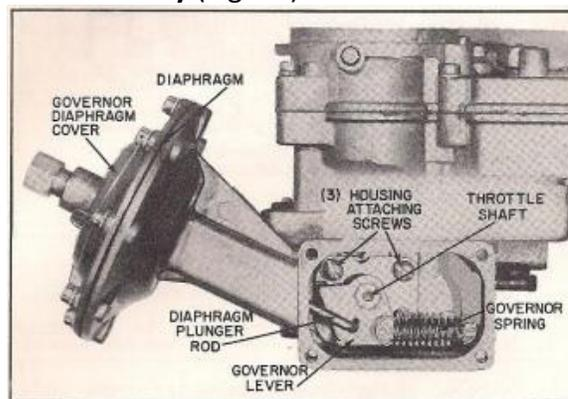

FIGURE 20
Disassembly of the 2G Governor Throttle Body (Fig. 20)
1. Install throttle lever, bearing and plate assembly using new gasket, attaching with (4) screws and lockwashers. Tighten securely. Install fast idle cam on throttle plate assembly using fast idle cam on throttle plate assembly using fast idle cam screw. Tighten securely.
3. Install seal retainer plate, attaching with (3) screws and lockwashers. Tighten securely. (Lip on seal will protrude through retainer plate when installed correctly). Lubricate seal with light motor oil.
5. Line up holes in governor diaphragm with holes in diaphragm housing. Install diaphragm cover and (8) attaching screws and lockwashers. Leave screws loose so that the diaphragm can move freely between cover and housing, until after diaphragm adjustment is made. See step 9.
7. Install governor lever on end of throttle shaft as shown (Fig. 20). Make sure flats on lever are seated on flats on throttle shaft. Install retaining nut and lock-washer. Tighten securely.
10. Install governor housing side plate using (4) attaching screws and lockwashers. Tighten securely